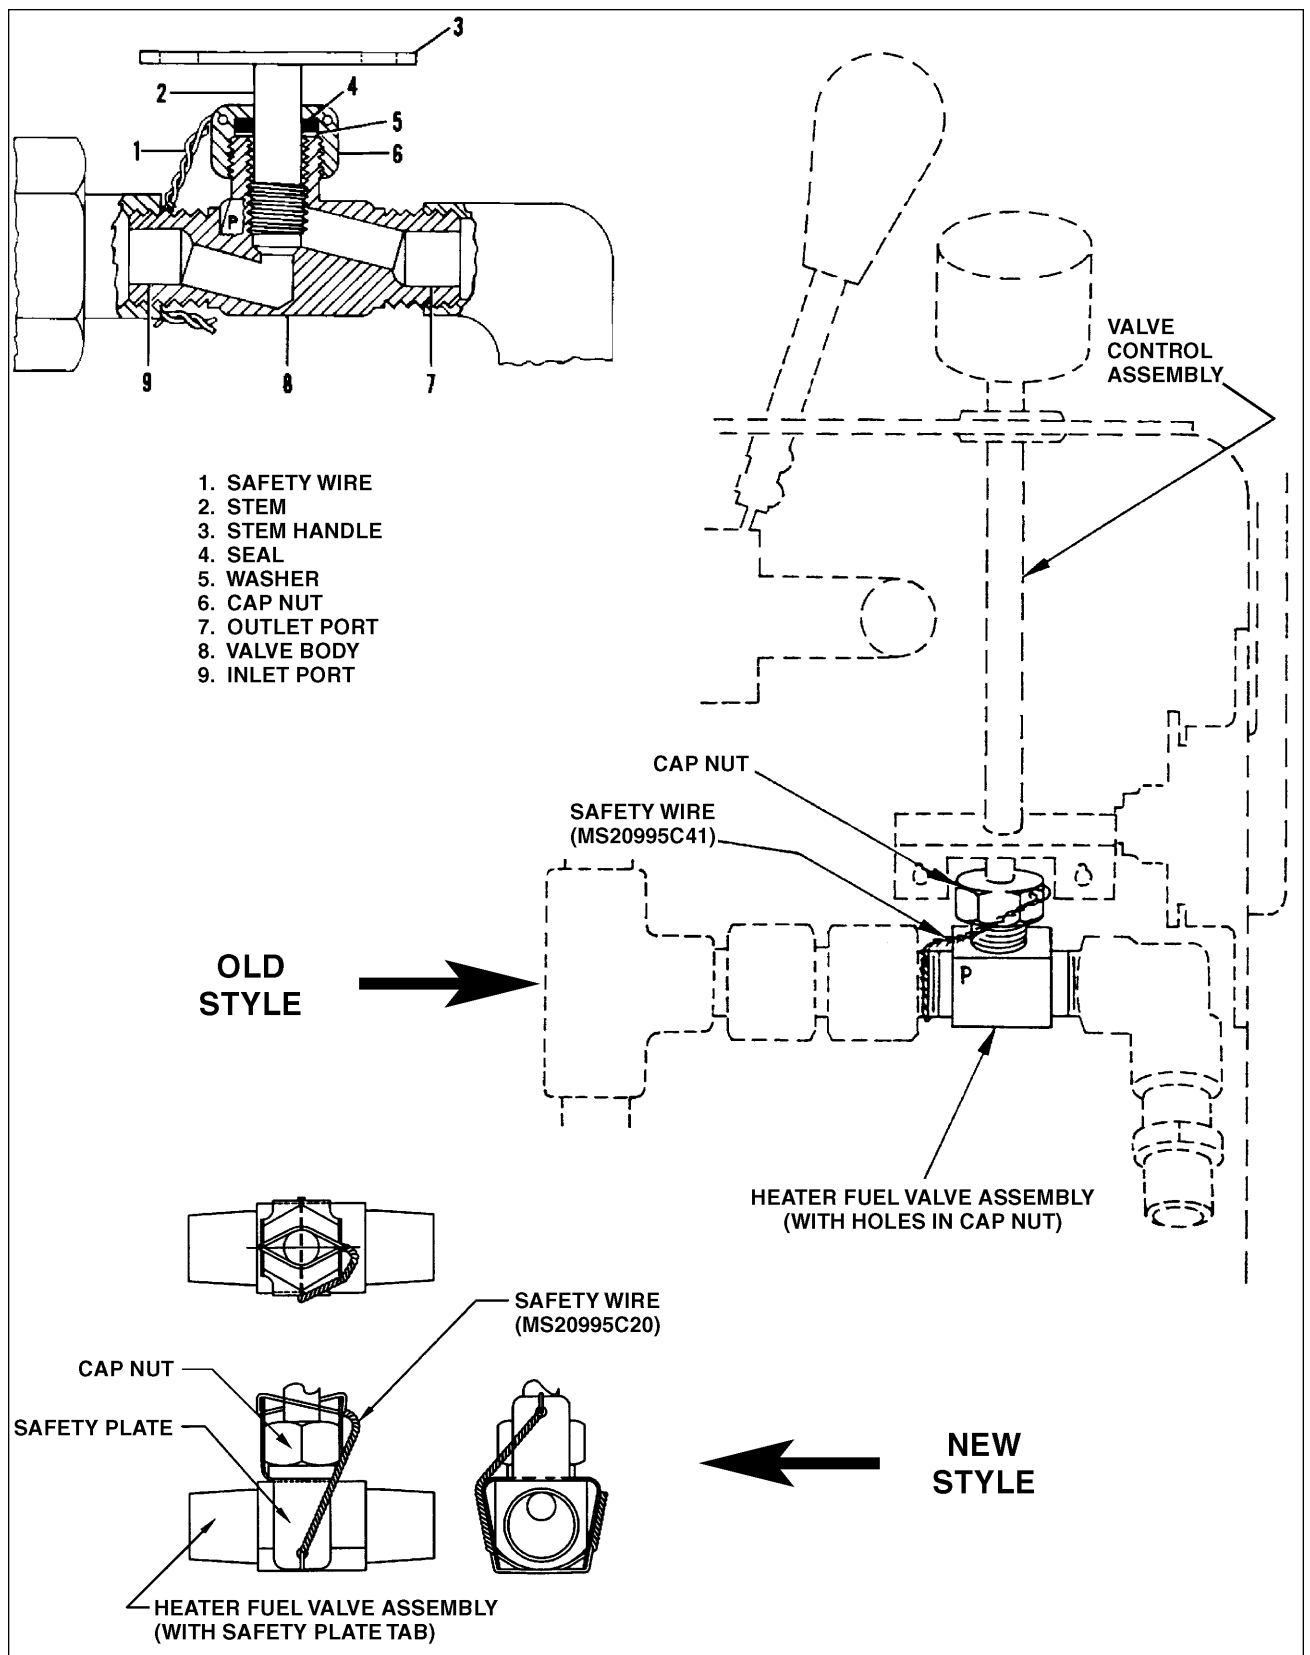

Figure 13-36. Heater Fuel Valve S/N's 27-1 thru 27-7405431
13-135. INSPECTION OF HEATER FUEL VALVE. (S/N's 27-1 thru 27-7405431.) (Refer to Figure 13-36.)
- b. The stem assembly (2) may be removed by cutting the safety wire (1) and unscrewing the cap nut (6) with stem handle (3).
- d. If any part of the stem assembly is damaged or if the cap nut (6) is not drilled for safetying purposes, replace the complete valve assembly.
- e. Reassemble the unit and tighten the cap nut (6) tight enough to prevent leakage but not to hamper turning the stem handle (3).
- f. Safety the cap nut (6) with safety wire (1) MS20995C32. (Refer to Figure 13-36.)